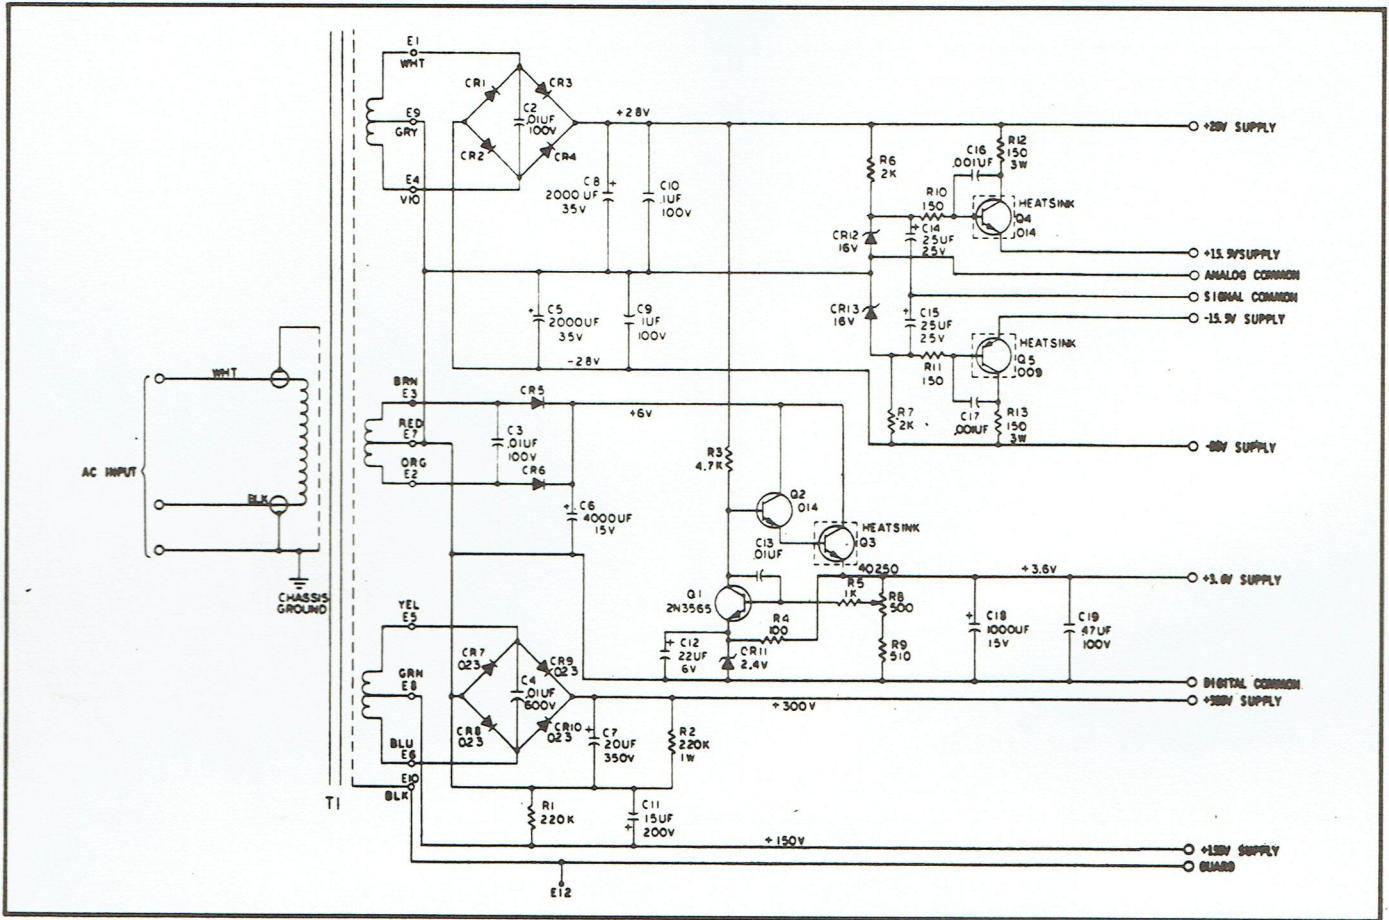

Figure 4.6 - Power Supply
4.42 The Power Supply, shown in figure 4.6, provides DC power to both the analog and digital